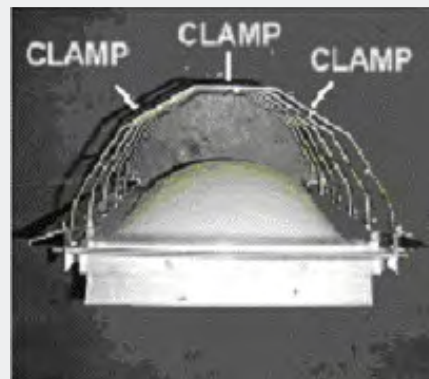

Figure 2
8. On units utilizing two or more screens per unit, lock screens together using the enclosed hose clamps (see locations on Fig 2). Recheck snugness of all nuts. On units longer than 105", or with two or more retaining rail pieces per side, attachment of the rail to the skylight frame with self-drilling fasteners is required.